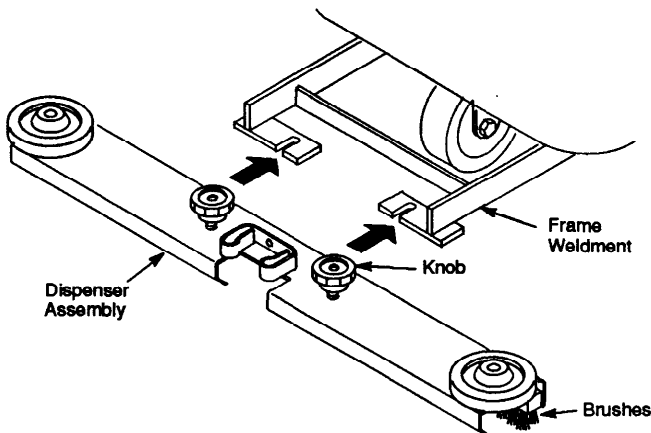

FIG. 5.
- Loosen (2) knobs and attach dispenser assembly to frame weldment, tighten down knobs. Brush side should face towards machine. (Figure 5)